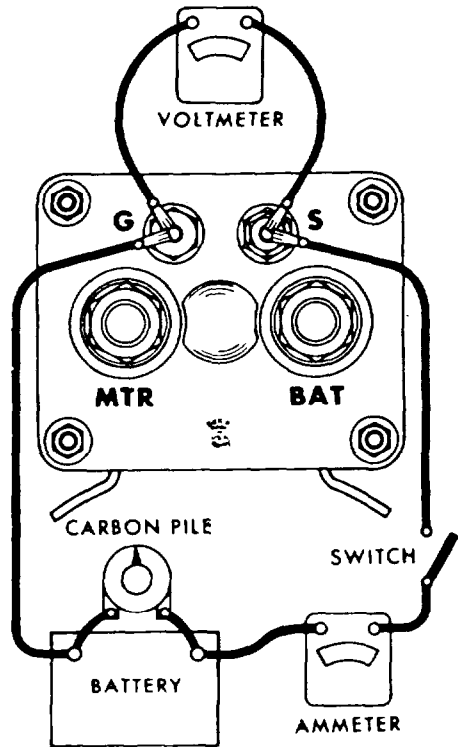

Figure 10D-6. Checking Solenoid Hold-in Winding
Use a carbon pile to decrease the battery voltage to the value specified in Table 10D-2 and compare the ammeter reading with specifications. A high reading indicates a shorted hold-in winding, and a low reading excessive resistance. To check the pull-in winding connect from the solenoid switch terminal (S) to the solenoid motor (M or MTR) terminal (see Figure 10D-7 on page 10D-7).